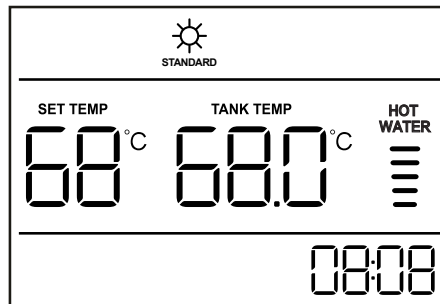

Figure 2.7 Main interface without timer
- After finishing all these steps, the display will show up like Figure 2.7;